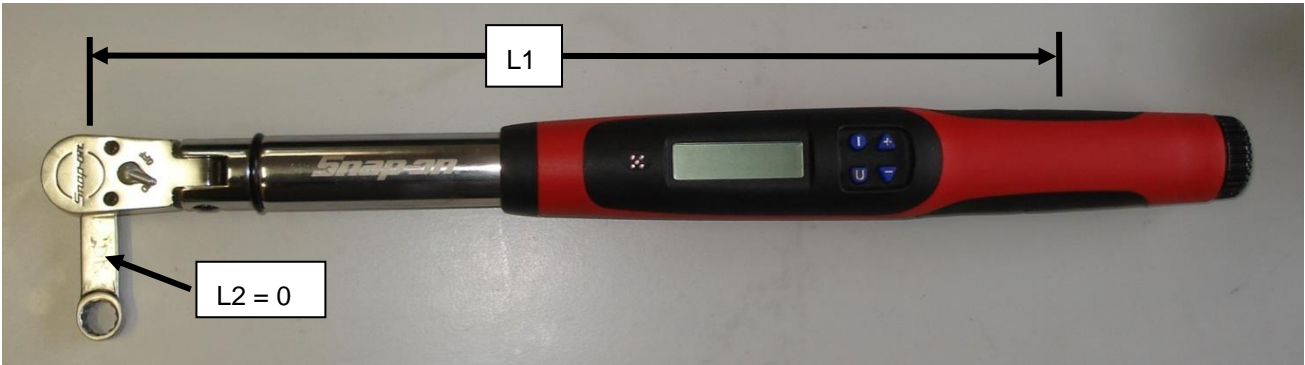

Figure 39 – Torque Wrench & Crowsfoot Adaptor Setting 2
- If the extension is oriented at 90° to the wrench as shown in Figure 39 then no correction is needed because L2 is zero.